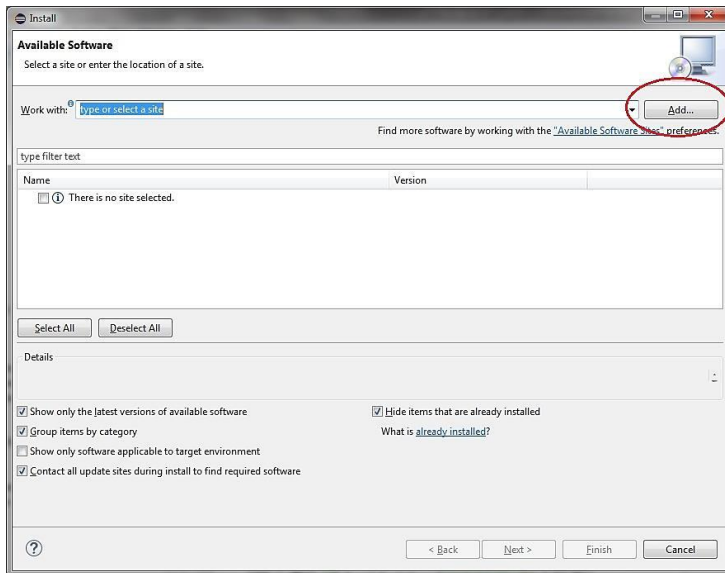

Figure 5: Installing PyDev Plug-in for Eclipse (continued)
- Click on the "Add" button, as shown in Figure 5.